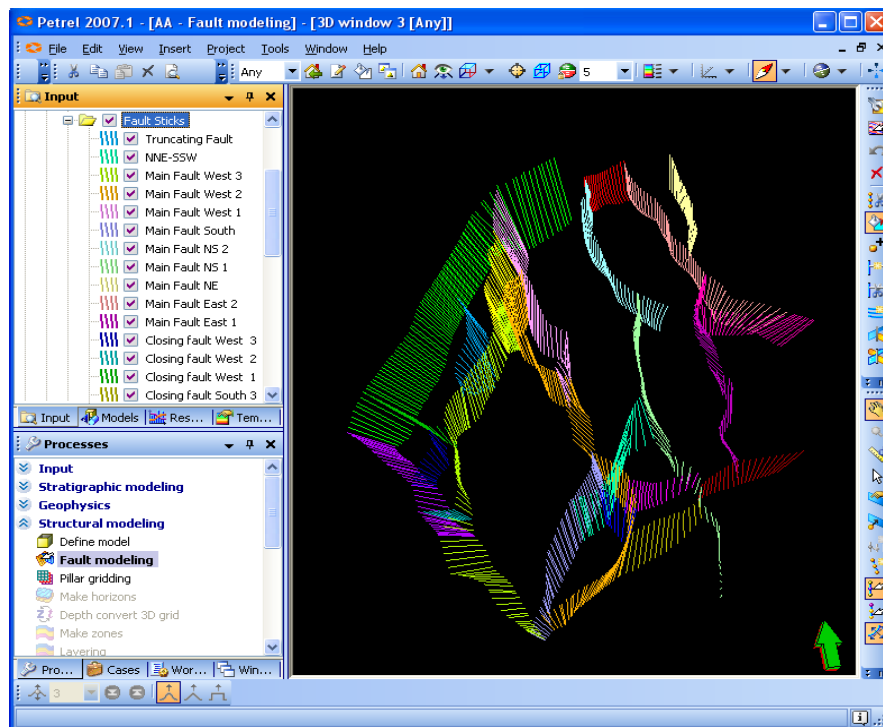

Fig. 11.22: Fault Sticks displayed in a 3D window
2. From the **Input pane** display the fault sticks. See Fig. 11.22.